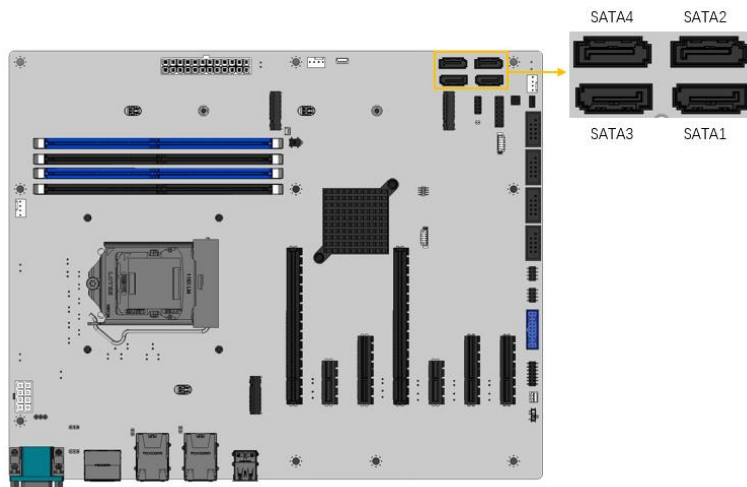

Figure 3-24: SATA 6Gb/s Connector Locations
- CN Location:** See Figure 3-24